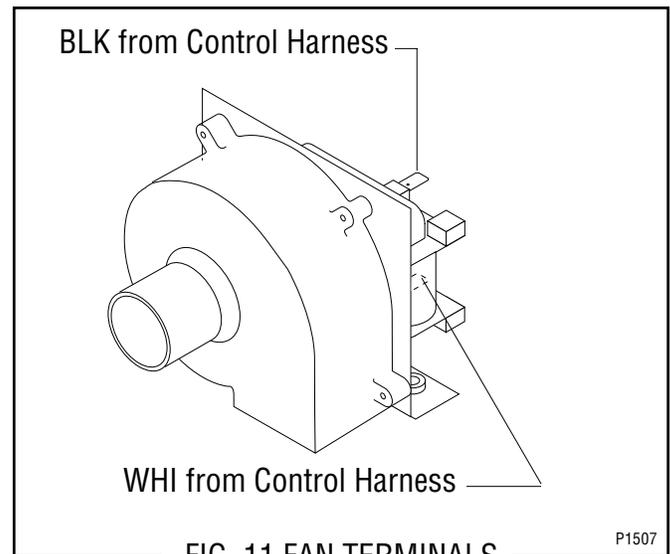

FIG. 11 FAN TERMINALS
4. Refer to Fig. 11 and connect the wires to the new fan.